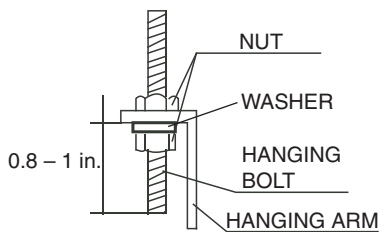

Fig. 7 — Mounting the Hanging Arm
2. Secure the hanging arms in position with locknuts and washers on both sides. Ensure the threaded rod does not protrude more than 1 in. below the mounting hole on the hanging arm as shown in Fig. 7.